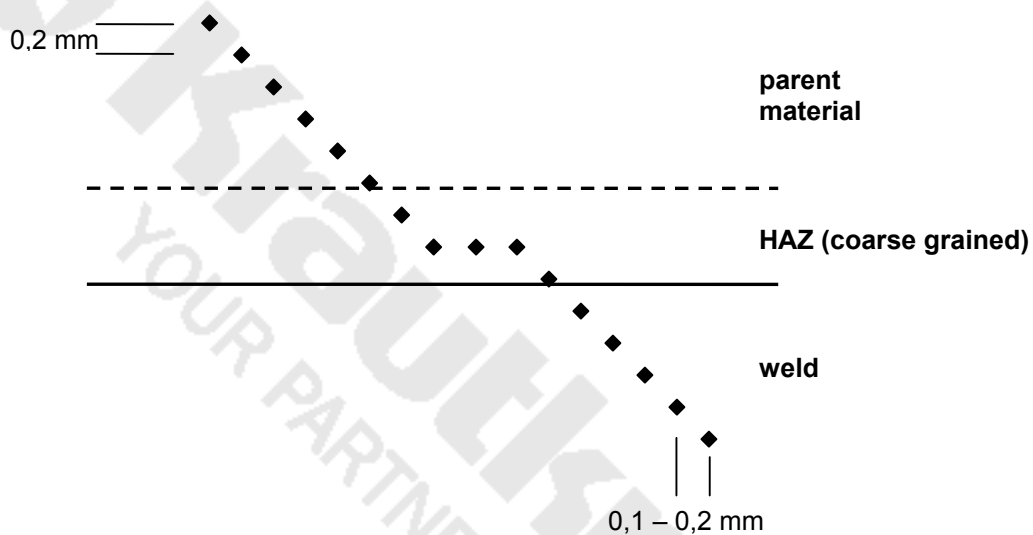

Fig. 3
- A set of hardness values should be obtained as shown in Fig. 3